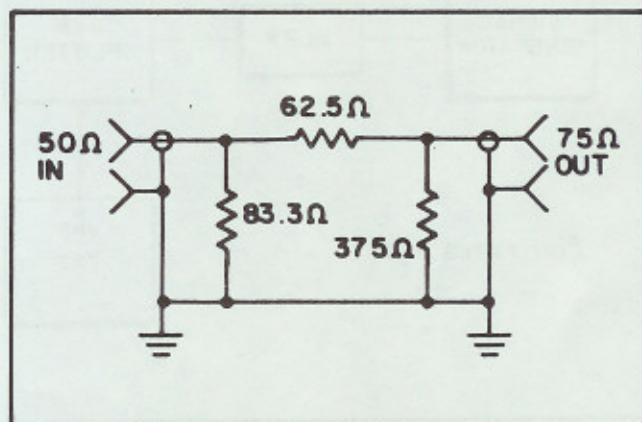
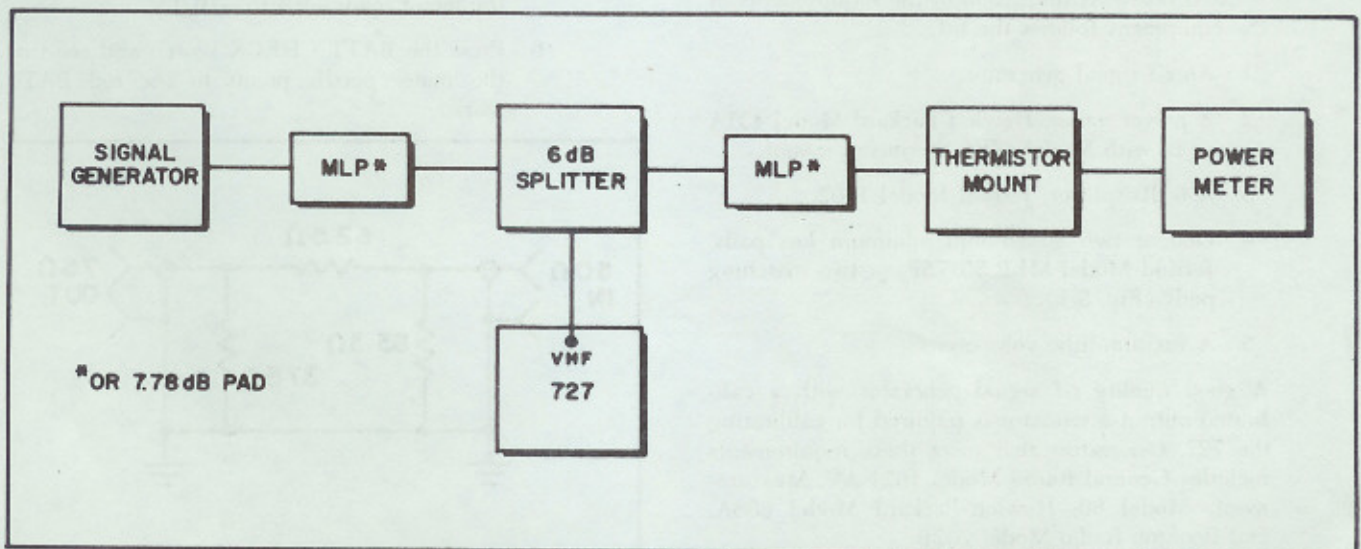

Fig. 5-1. Circuit of 7.78 dB Pad
Fig. 5-2. Setup for Tuner Compensator Calibration by the Power Meter Method
4. One or two 50/75-ohm minimum loss pads, Jerrold Model MLP 50/75F, or two matching pads (Fig. 5-1).
For accurate calibration it is important that the output impedance of the signal generator be 75 ohms. Where an r-f signal generator with an output impedance of 50 ohms is used, a 50/75-ohm minimum loss pad must be inserted between the generator and the splitter (Fig. 5-2). As the input impedance of the HP power meter is 50 ohms, a similar minimum loss pad is required for the power meter method. Fixed 7.78 dB matching pads may be used in place of the minimum loss pads, bearing in mind that the signal attenuation will differ. (The circuit for a "do-it-yourself" pad is given in Fig. 5-1.) In the calibration procedure, wherever level settings depend on the type of pad employed, the settings for both types are given.
7. Connect equipment as shown in Fig. 5-2.